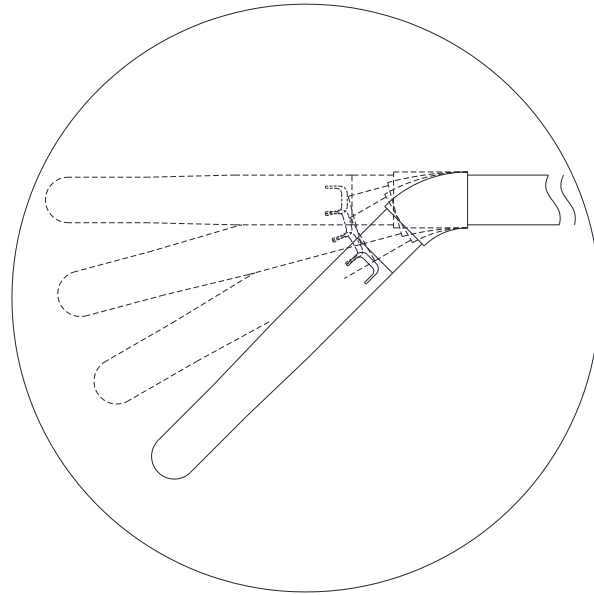

Figure 3-2
- 2) Become familiar with the bending action of the device by pulling on the fin on the knob with your index finger, and bending the device jaw at the front end of the device with the other hand (Figure 3-2). When the lateral pressure is applied in either direction, the device jaw will bend to the maximum angle of 45 degrees, at which point the bending resistance increases to signal the end of the bending arc. Maintain the lateral pressure while releasing the knob to lock the angle of the shaft. After locking the jaw, release the lateral pressure. Release the knob before reaching the end of the bending arc, and the device jaws will also be locked at an angle of about 15-30 degrees. To return the device jaw to the straight position, pull on the fin of the knob to release the bending angle locking action, and the device jaw will return automatically.